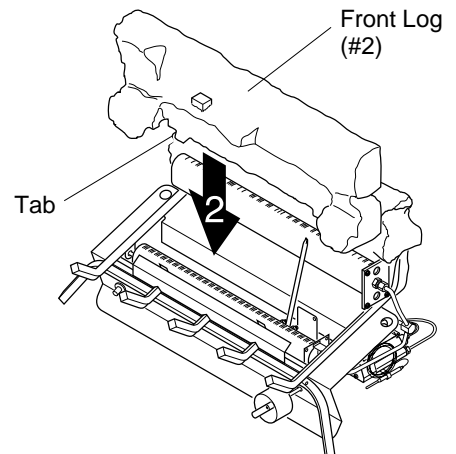

Figure 19 - Installing Front Log
2. Slide front log (#2) into place behind front burner. Make sure tabs at bottom of log are behind front burner (see Figure 19).